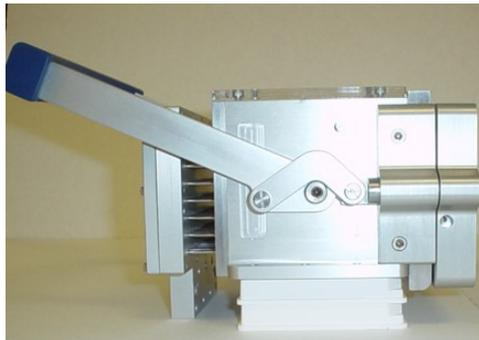

Figure 5-7: Hydra DT syringe head positioned on its back stacked on 2 standard height plates
1. Lay the syringe head on its back. The lower portion of the head will need to be propped up so that the head lies flat (two normal well plates stacked are the perfect height). See Figure 5-7.